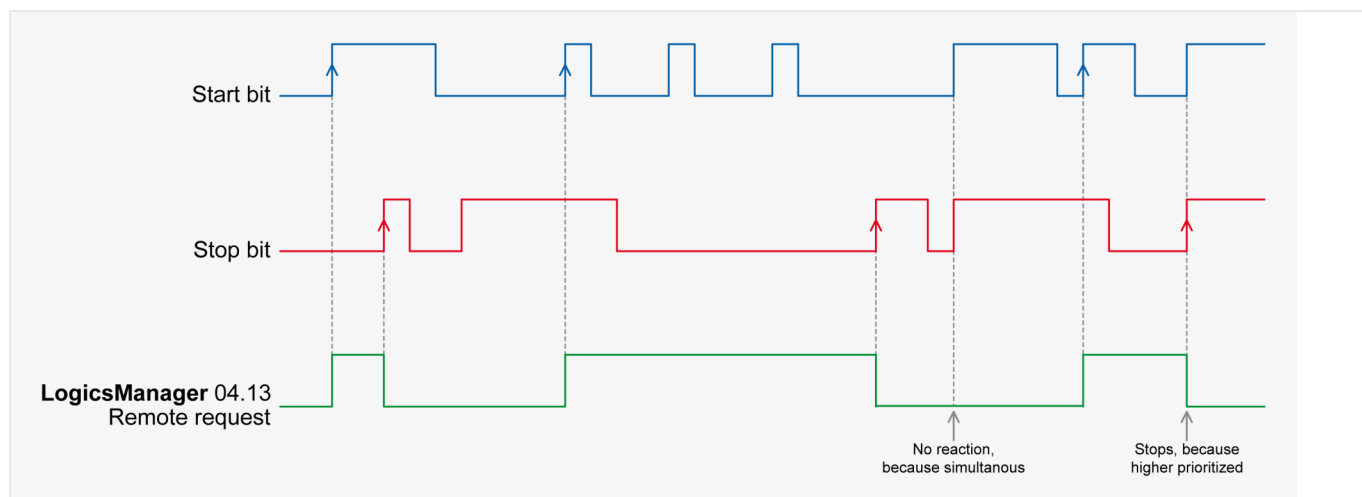

Fig. 275: Command variable
- The command variable "04.13 Remote request" changes to "0" (low) if the stop bit (ID 503, bit 1) changes from "0" to "1" (↪ Fig. 275).